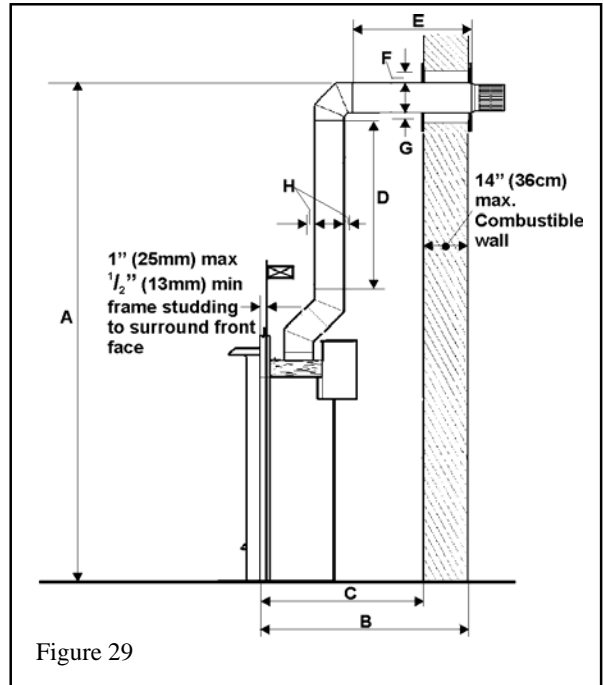

Figure 29
5.2.9. Top vent connection, vertical vent rise with horizontal rear termination (Fig.29)
The location requirements are (See figure 29):-
5.2.10. Top vent connection, vertical vent rise with horizontal side termination (Figs.29 &30)
5.2.12. Top vent connection, corner location, vertical rise, horizontal termination, 45° pipe bend (Figs 29 & 31)